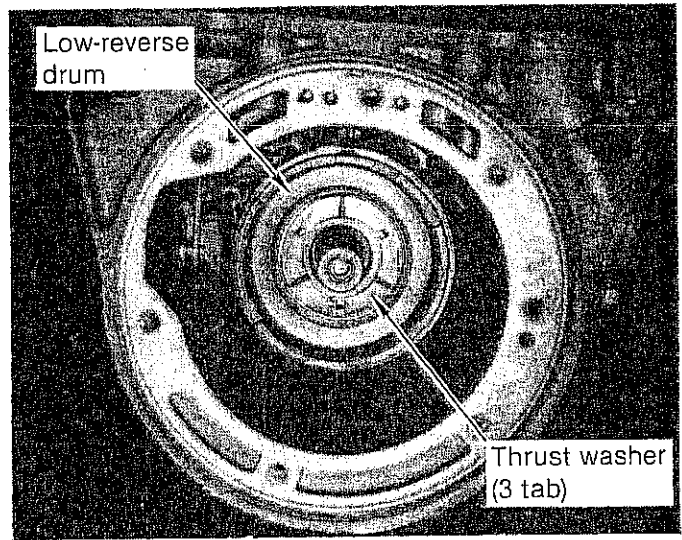
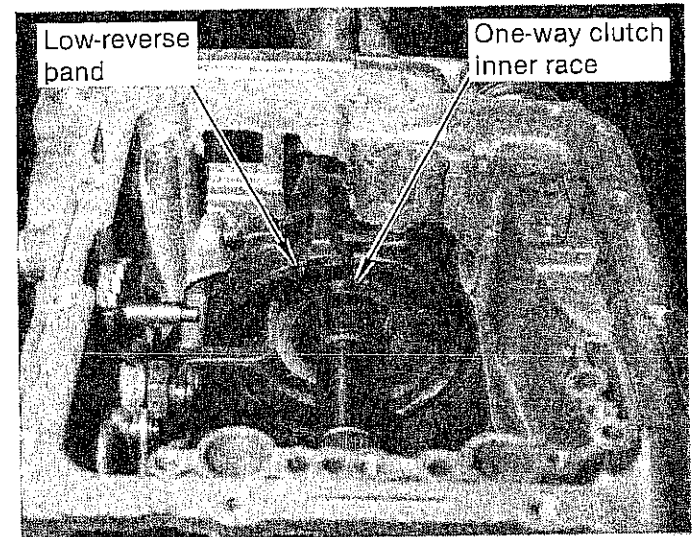
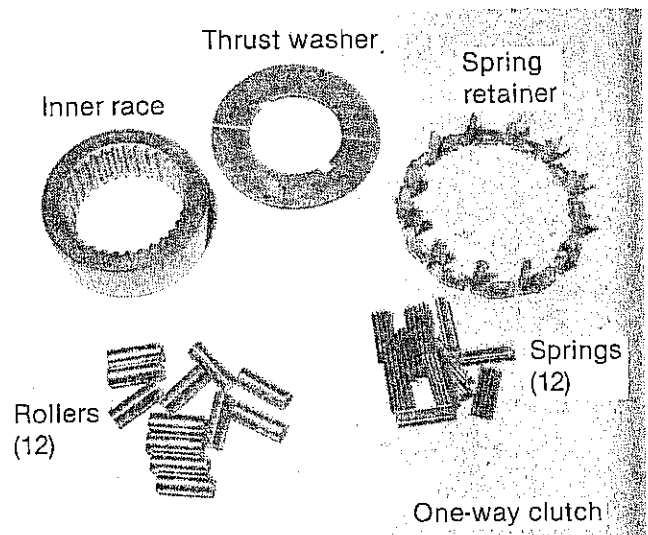

FIGURE 16
FIGURE 17
FIGURE 18
STEP 11. Remove the low-reverse drum by pulling it straight out. (See Fig. 16) The one-way clutch behind the low-reverse drum may fall apart. Do not be alarmed. Set the drum aside. Remove the one-way clutch inner race. (See Fig. 17) Also remove twelve rollers, twelve accordion shaped springs, spring retainer and thrust washer. (See Fig. 18)
STEP 12. Remove the low-reverse band from the case and set it aside. (See Fig. 17)